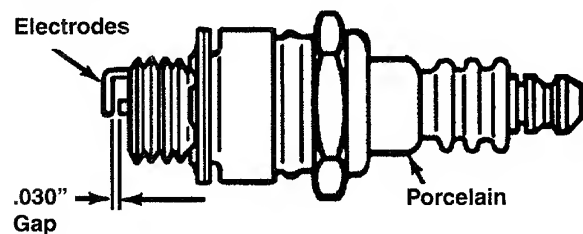

Figure 19
- Replace the spark plug if electrodes are pitted, burned, or the porcelain is cracked. See Figure 19.
- Clean the spark plug and reset the gap to 0.030" at least once a season or every 50 hours of operation. See Figure 19.